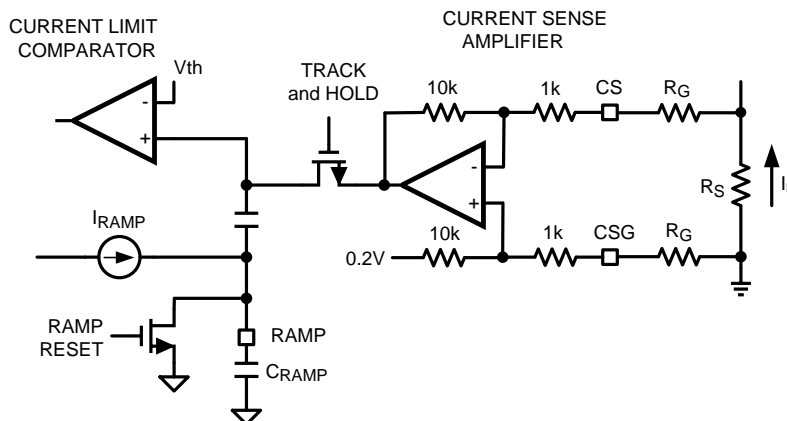

Figure 14. Current Limit and Ramp Circuit
The pedestal current sample is obtained from the current sense resistor (R_s) connected to the CS and CSG pins. It is sometimes helpful to adjust the internal current sense amplifier gain (A) to a lower value in order to obtain the higher current limit threshold. Adding a pair of external resistors R_G in a series with CS and CSG as in Figure 14 reduces the current sense amplifier gain A according to Equation 5: